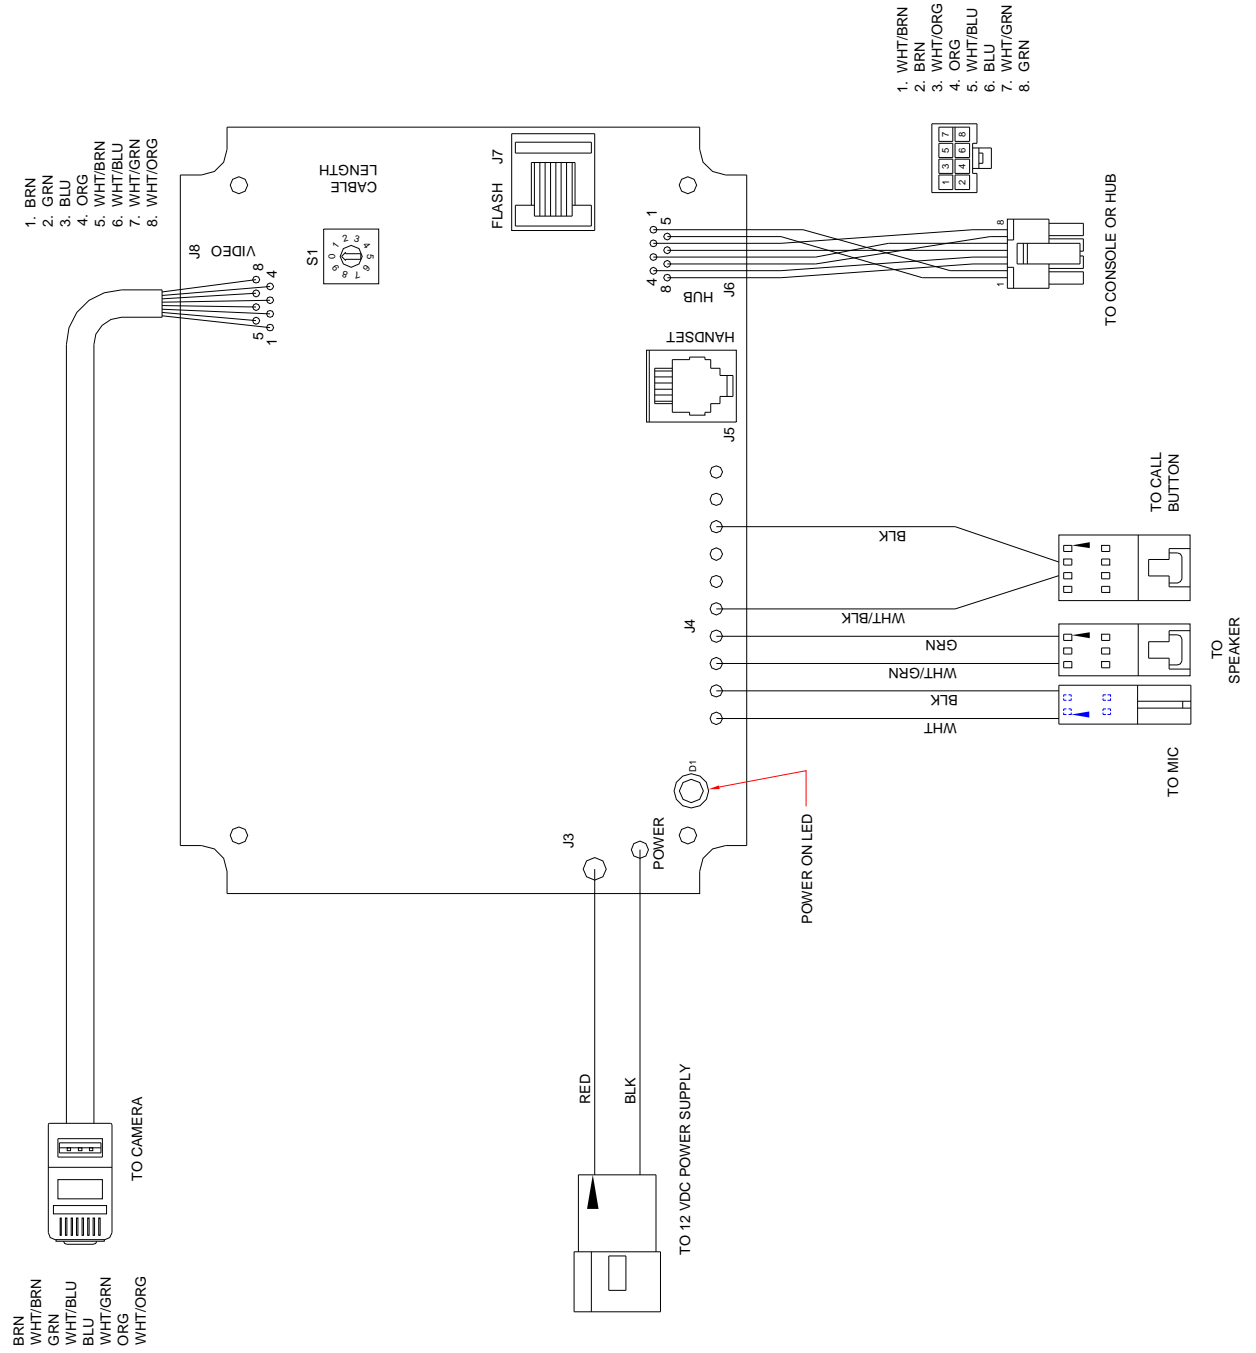

Fig.1
6. Connect the wires to the lane board (**see fig. 1**) and secure with the wire tie mounted in the head.